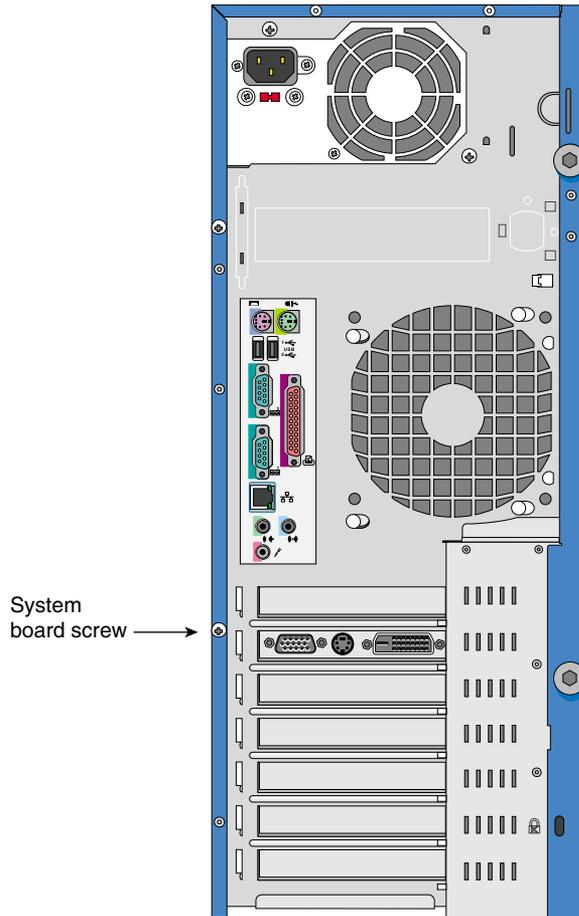

Figure 2-21 Location of System Board Screw
5. Loosen the system board screw. Figure 2-21 shows the location of the screw.
5. Secure the system board screw onto the retaining bracket. See Figure 2-21 on page 44 for the location of the system board screw.